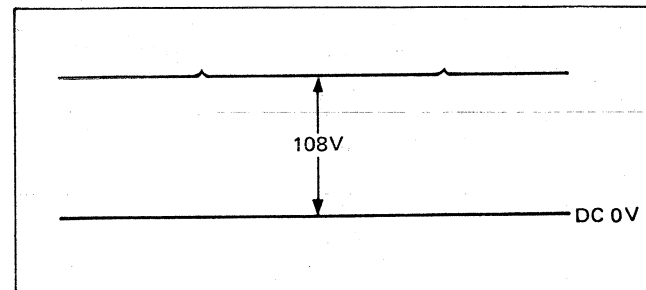

Fig. 19
5. Adjust Brightness control (R5824) and R5544 (Max. Brightness) becomes 108V as shown in Fig. 19.